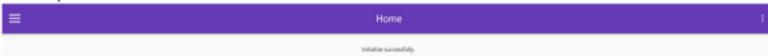

Figure 4 Successful initialization interface
- 4) Click **【Initialize】**. The initialization takes about 2 min. If **【Initialized】** is successfully displayed (as shown in following figure 4), the device is connected successfully, and you can go to the next step.